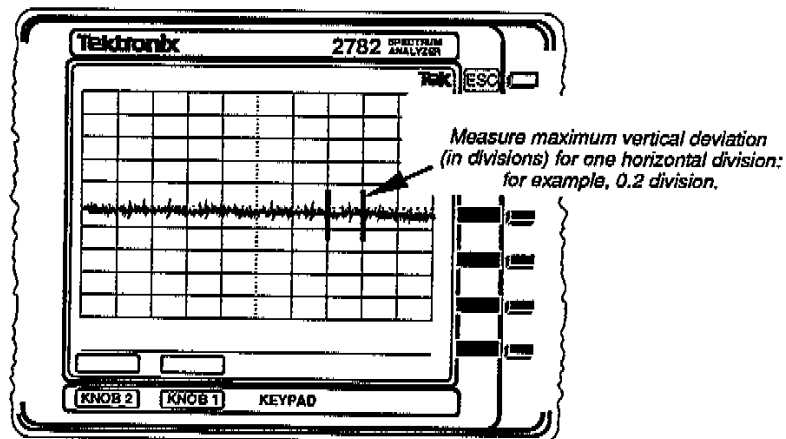

Figure 2-13. Baseline rise of 100 MHz reference signal.
- c. The baseline rise of the 100 MHz reference signal, which at the present span setting is a horizontal line, should be displayed on the crt (as shown in Figure 2-13). Using the 2782 FREQUENCY/MARKERS knob, center the baseline rise vertically on the crt. (Very little adjustment of the FREQUENCY/MARKERS knob is required to adjust the vertical position of the baseline rise on the crt.